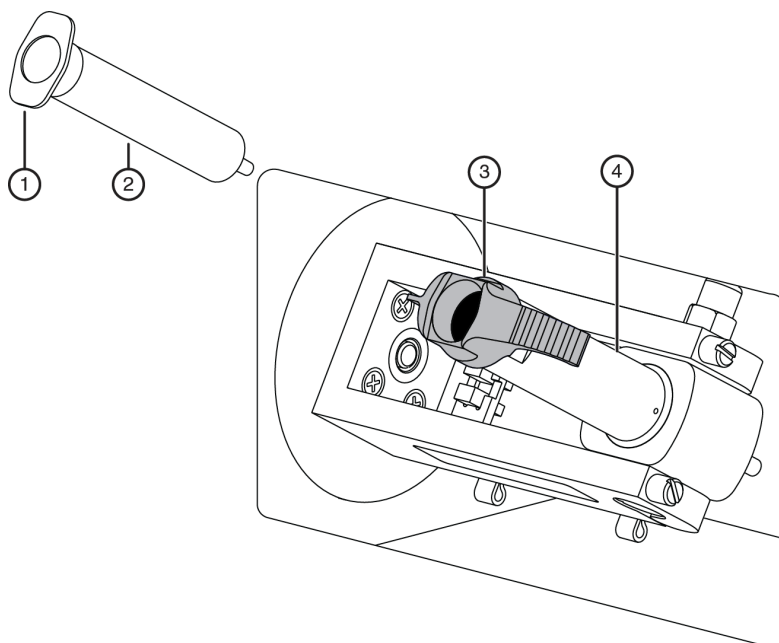

Figure 3.53 Removing/Replacing the Gel Cartridge - Continued
4. Grasp the wings of the gel cartridge/gel pump plug and pull it out of the barrel (Figure 3.53).